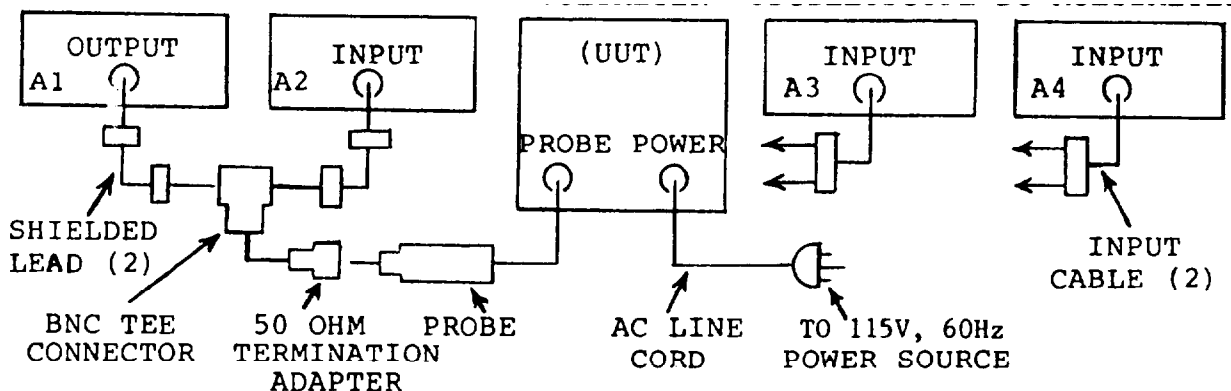

Figure 6-1. Pre-amplifier and post amplifier test setup.
(1) Oscillator
(2) AC voltmeter
(3) Oscilloscope
b. Test connections: Connect the equipment as shown in figure 6-1.
(1) Properly shield the voltmeter (U.U.T.), (see paragraph 5-2).
(2) Adjust the oscillator frequency to 200 KHz and using the AC voltmeter set to 0.001 volt full scale range position, adjust the oscillator's output to 1mV.
(3) Verify the POWER switch is set to ON. Set the RANGE switch to the 0.001 volt full scale range position.
(4) Connect the oscilloscope, set to 5 volt/centimeter, from amplifier board terminal (3TP7) to chassis.
(5) Disconnect oscillator from probe. Adjust the SET REF control voltmeter for minimum amplitude reading on the oscilloscope and should read 1.7 V to 2.3V P-P.
(6) Reconnect the oscillator to the probe. With 1mV applied to the probe, measure on the oscilloscope 13.5V to 16.5V P-P.
(7) Disconnect oscilloscope. Leave other equipment connected in order to perform the voltage accuracy test, paragraph 6-5.
- (6) Disconnect equipment as shown in figure 6-1.